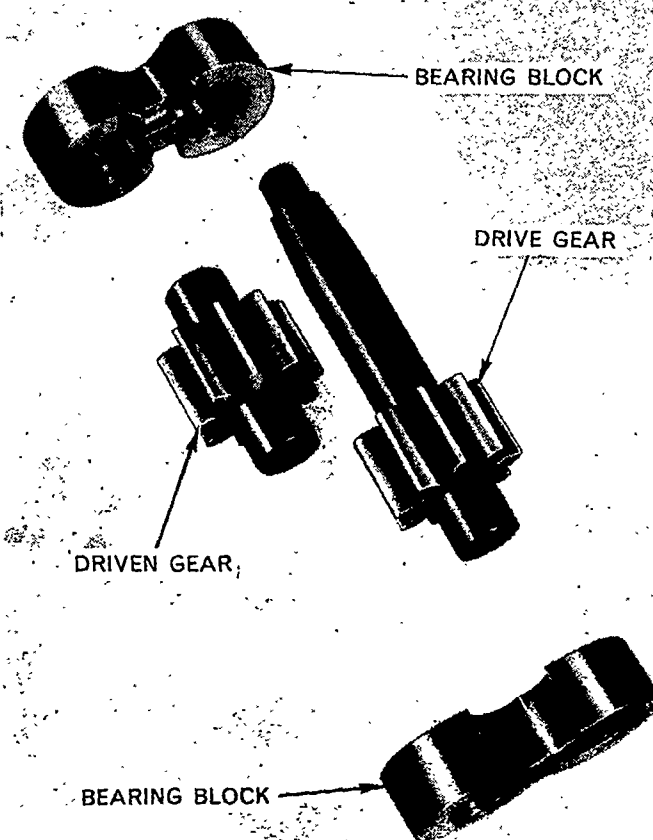

Figure 23
2. Inspect the bearing blocks, Figure 23, for signs of seizure or scoring on the face of the journals. If assembly is disassembled keep parts in relative position to facilitate assembly. Light scoring marking can be